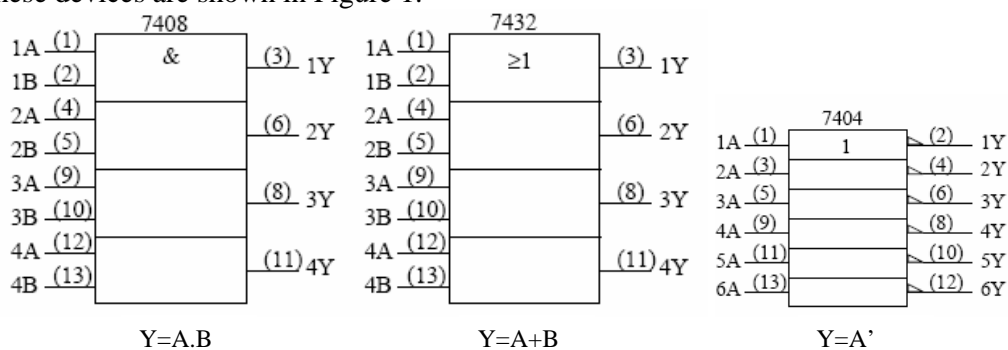
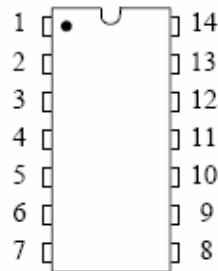

Figure 1: Standard Logic Symbols
Figure 2: Identifying Pin 1
Logic-Gates are basic building blocks of digital circuits. Using these building blocks, complex functions or larger digital circuits can be built. Examples of the basic logic gates are **AND, OR, NOT, NAND and NOR**. A complex gate such as an **XOR** gate can be built out of these basic gates. Each logic gate is actually implemented in part of an integrated circuit (IC), with each gate made using several transistors. For the most part we do not need to concern ourselves with the actual circuitry inside each gate, only the interconnections between individual gates. Usually each IC package contains several individual gates. The 7408 chip implements 4 two input AND gates and is commonly referred to as a “Quad two input AND” chip. Similarly the 7432 chip is a “Quad 2 input OR” chip while the 7404 chip is a “Hex Inverter” since it contains 6 inverters. The IEEE standard logic symbols for each of these devices are shown in Figure 1.
Each of the chips in Figure 1 is available in 14 pin Dual-In-Line packages or DIPs. In a popular logic family called TTL (Transistor-Transistor Logic), the low logic level is assigned to 0V and the high logic level is assigned to 5V. Each IC or chip has an ID number that can be referenced in IC Data Book. From the book, you can get the pin configuration of that chip. The pin numbers assigned to each logic signal are shown inside brackets in the figure. The pins are numbered as shown in Figure 2. Pin 1 is usually identified as the pin to the left of an indentation or cutout in one end of the chip that is visible when the chip is viewed from the top. Occasionally, it is also identified by a printed or indented dot placed just next to it.